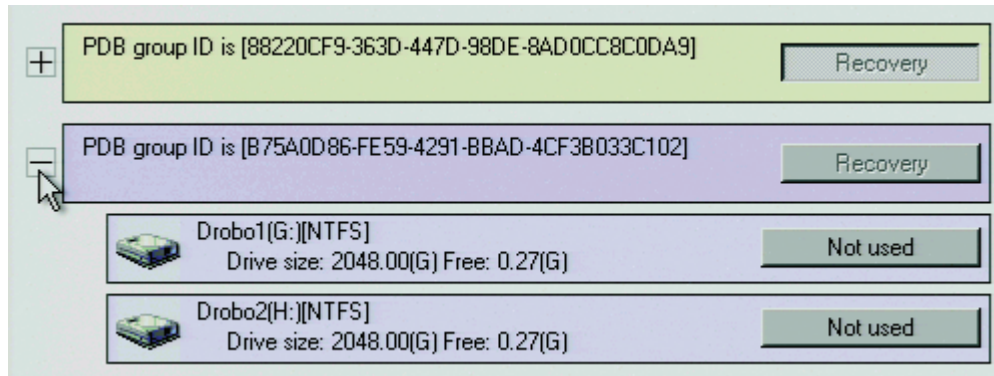

Figure 83. Expanding the PDB IG Group Box
- a. Beside the "PDB group ID" dialog box option, click the plus (+) sign to expand the list (refer to Figure 83).